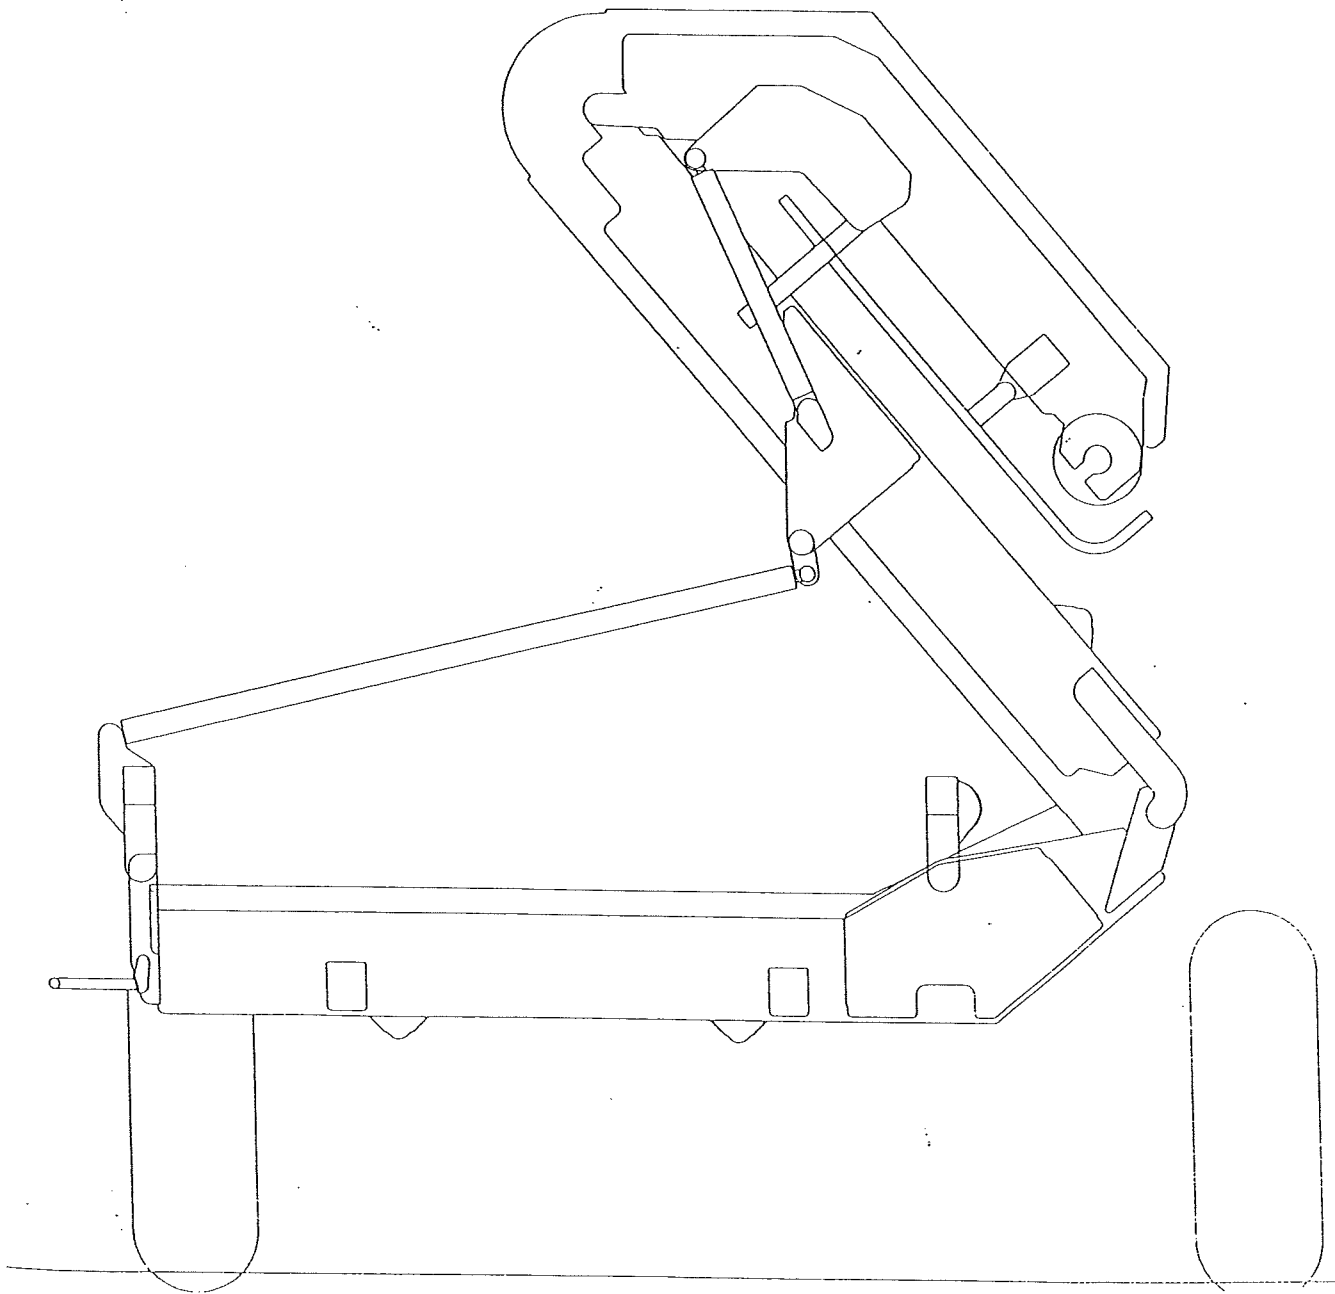

Fig 10.5
1. Make sure that the cart elevator is in the fully folded position (Fig 10.5)